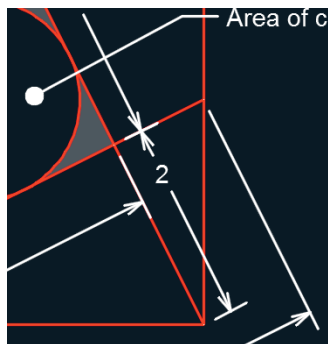

FIGURE 11.23 Changing dimension text justification with DIMTEDIT
7. Type **L** (for Left), and press Enter. The dimension text is now left-justified in relation to the dimension line, so the 2 is more easily read within the space left between the red lines (see Figure 11.23).